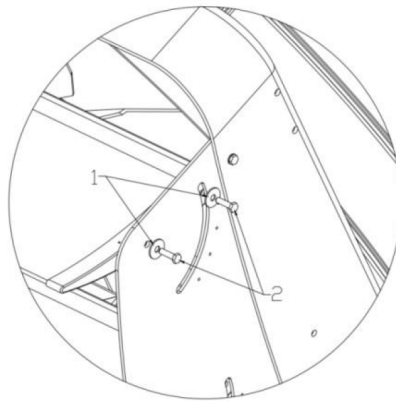

Figure 5
3. Install the guide plate as in (Figure 5) from top to bottom on the guide plate mounting plate